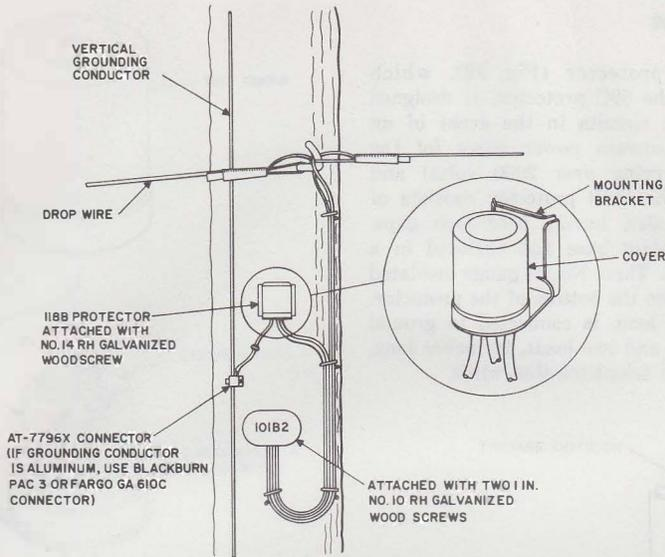
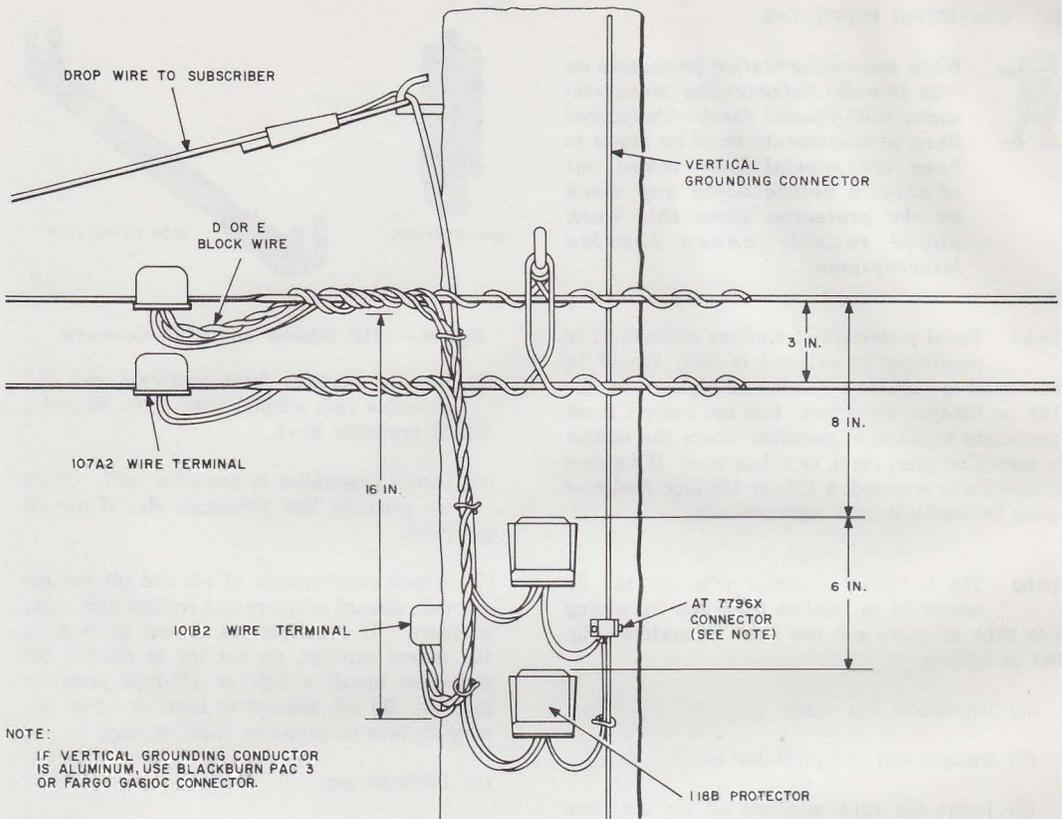

Fig. 94—118B Protector Connected to Drop Wire
Fig. 95—118B Protectors Connected to Rural Wires
13.02 The 118B protectors are connected to drop wires (Fig. 94) or rural wires (Fig. 95) as specified by detailed plans, telephone company engineering or supervisory instructions. The 118B protector provides protection for a single drop wire or rural wire run; however, the length of a drop wire or rural wire run may dictate the installation of additional protectors on the same drop wire or rural wire.